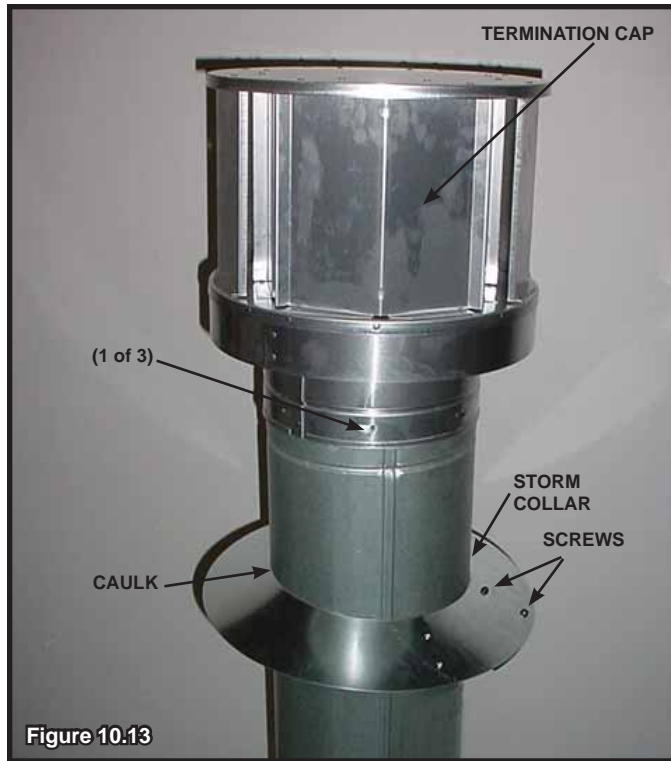

Figure 10.13
- Caulk around the top of the storm collar (see Figure 10.13).
- Secure the cap by driving three self-tapping screws (supplied) through the pilot holes in the outer collar of the cap into the outer flue of the pipe (see Figure 10.13).